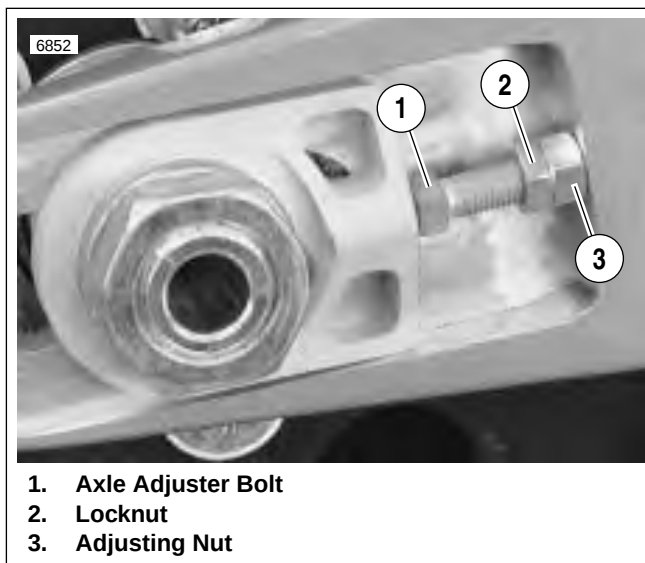

Figure 2-68. Axle Adjuster Bolt, Right Side Shown
18. See Figure 2-68. Tighten locknut (2) flush against adjusting nut (3). Tighten axle nut (metric) to 66-73 ft-lbs (90-99 Nm). Verify that belt deflection is correct. Lower motorcycle onto lift.